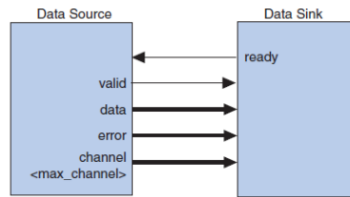

Figure 2: Architecture of the data source and sink.
In this exercise we create a cycle accurate communication model that uses the Avalon Streaming Bus interface (ST) to send data from a master (data source) to a slave (data sink) by a common clock frequency. The sink notifies the source whenever it is ready to receive new data and stores the received data in a text file. The data simulation is shown in a GTKWaveViewer file. The channel configuration is defined in the exercise. Figure 2 shows the architecture of the source and sink.